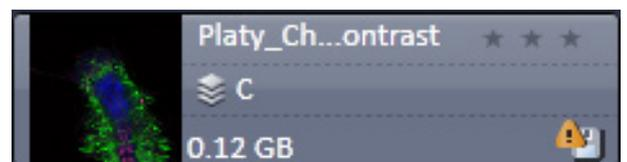

Fig. 388 Image with warning symbol
- In case the image is not saved or has been processed, a warning symbol is displayed on the right side (Fig. 388).